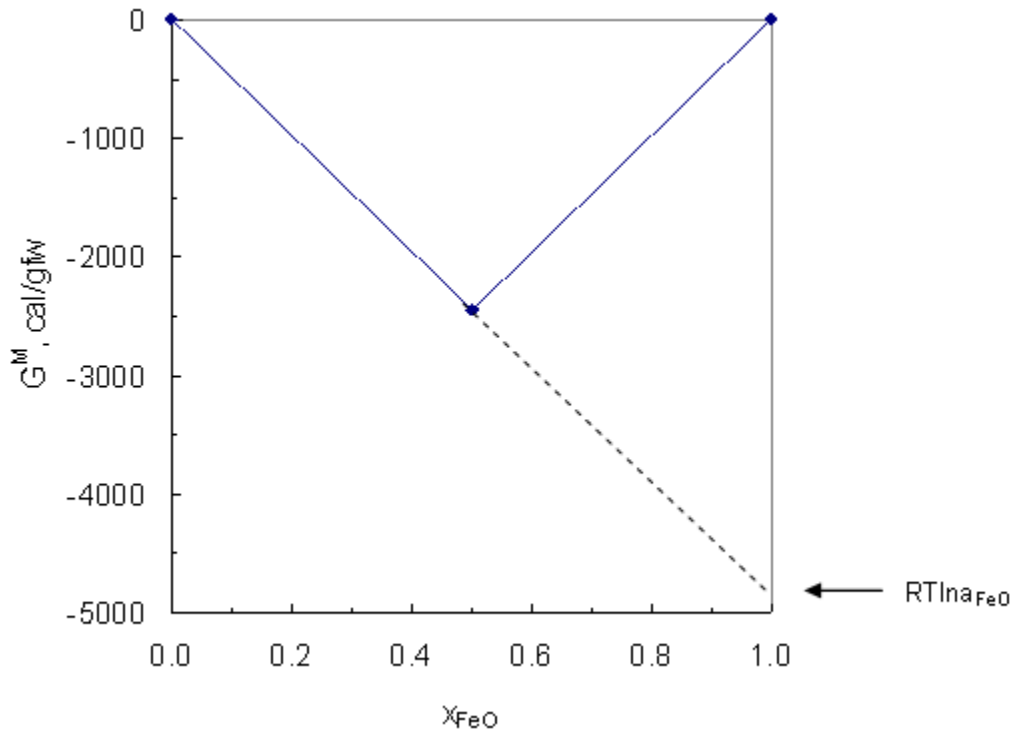

Figure 1. Integral molar Gibbs energy of mixing for the solid alumina-wustite system at 1000 °C
- Refer to figures as Figure 1 or Fig. 1 (discouraged but allowable).
- Refer to equations as Equation (1) or Eq (1) or Eq. (1).